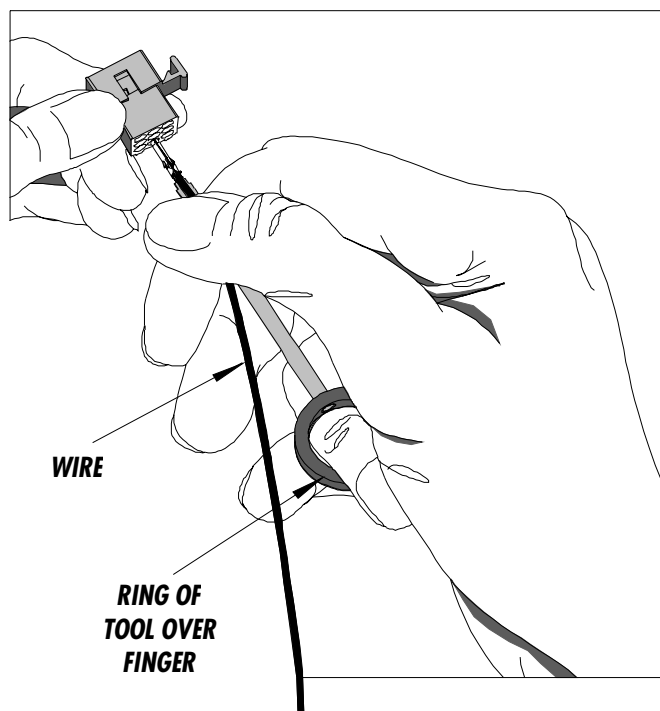
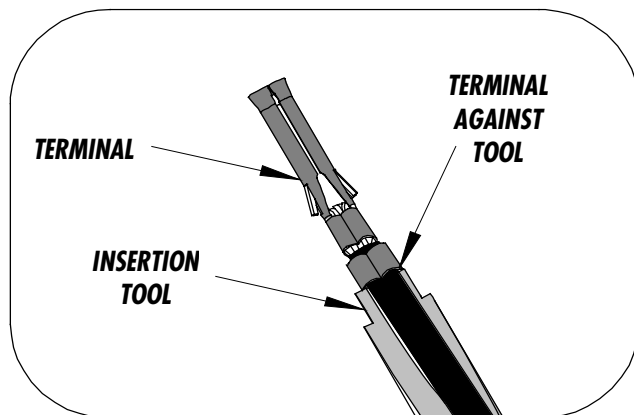

Figure 1
Figure 2
- 1) *To properly use this tool, with the flat side facing up, place the ring over the ring finger past the first joint (See Figure 1). Place the wire in the groove of the tool so that the terminal is touching the end of tool (See Figure 2).*